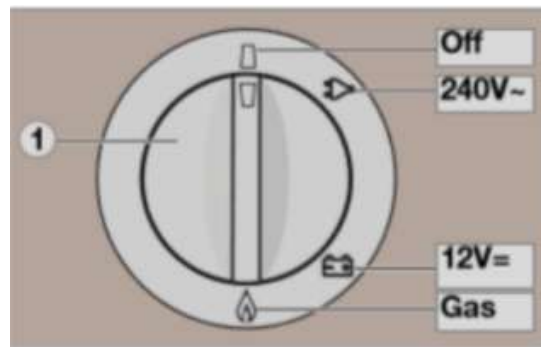
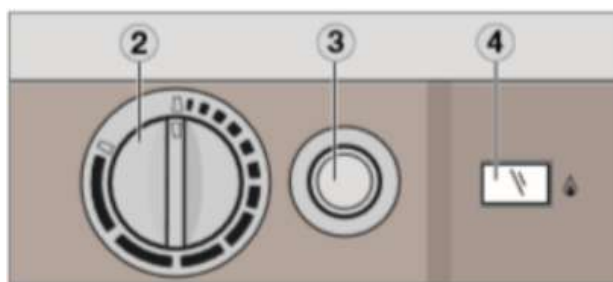

Fig. 7 – Power ON / Energy selector switch
Fig. 8 – Cooling temperature / Gas igniter switch
Select the desired power source by turning the energy selector switch (Fig. 7, item 1) according to the situation. To regulate the cooling temperature, rotate the knob (Fig. 8, item 2). In 12V mode there is no possibility to regulate temperature.
- Even if the main control panel is OFF (Fig. 1, item 5) the refrigerator will be working all the time to control temperature inside. Make sure to turn it OFF, in the refrigerator energy selector switch (Fig.7, item 1), when not in use or when returning the campervan.
2. Turn the rotary selector switch (Fig.7, item 1) to Gas mode (flame icon)
3. Turn the temperature selector (Fig.8, item 2) clockwise and push. Keep the controller button depressed.
4. Then, press the button (Fig.8, item 3) of the battery igniter down and keep it depressed. The ignition process is activated automatically.
5. Once the flame ignites, the pointer of the galvanometer (Fig.8, item 4) begins moving into the green range. The refrigerator is operational. Keep knob (Fig.8, item 2) depressed for approx. 15 seconds and finally release it.
To operate the refrigerator when driving the campervan, turn the rotary selector switch (Fig.7, item 1) to 12V mode (battery icon). Make sure that the motor is running when using this mode.
To operate the refrigerator when parked in a camping site and with mains cable connected, turn the rotary selector switch (Fig.7, item 1) to 230V mode (electrical plug icon).